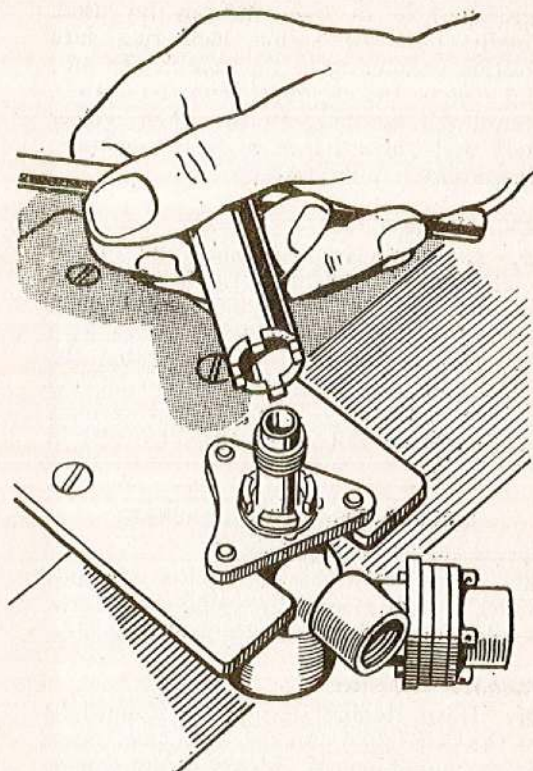

Fig. 8. The valve housing nut fitted
27. Add a new copper joint washer and the slotted nut. Tighten the nut using the slotted spanner (fig. 8). The nut must be tightened to accommodate the lock washer which is afterwards dropped over the valve housing with the tabs registering in the slots in the nut and the solenoid casing.